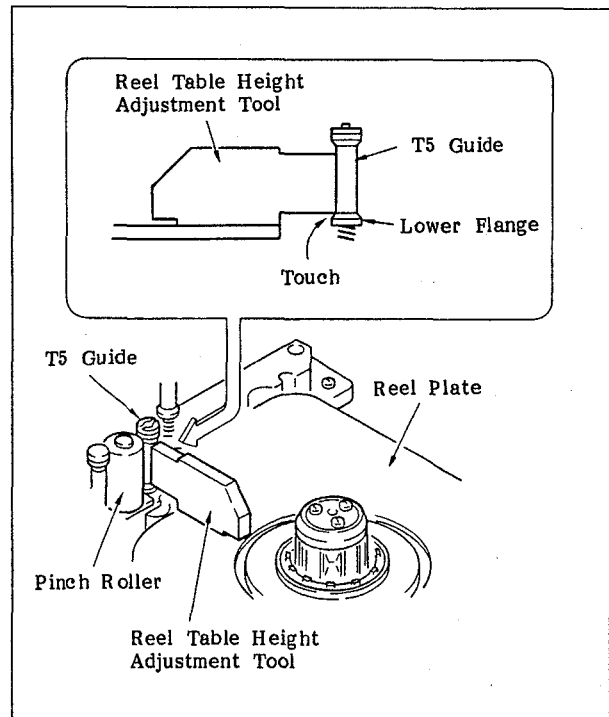

Fig. 6-86 Checking the Height of the T5 Guide
- i. Push the reel table height adjustment tool against the T5 guide, as shown in Figure 6-86. Check that the reel table height adjustment tool touches the lower flange.